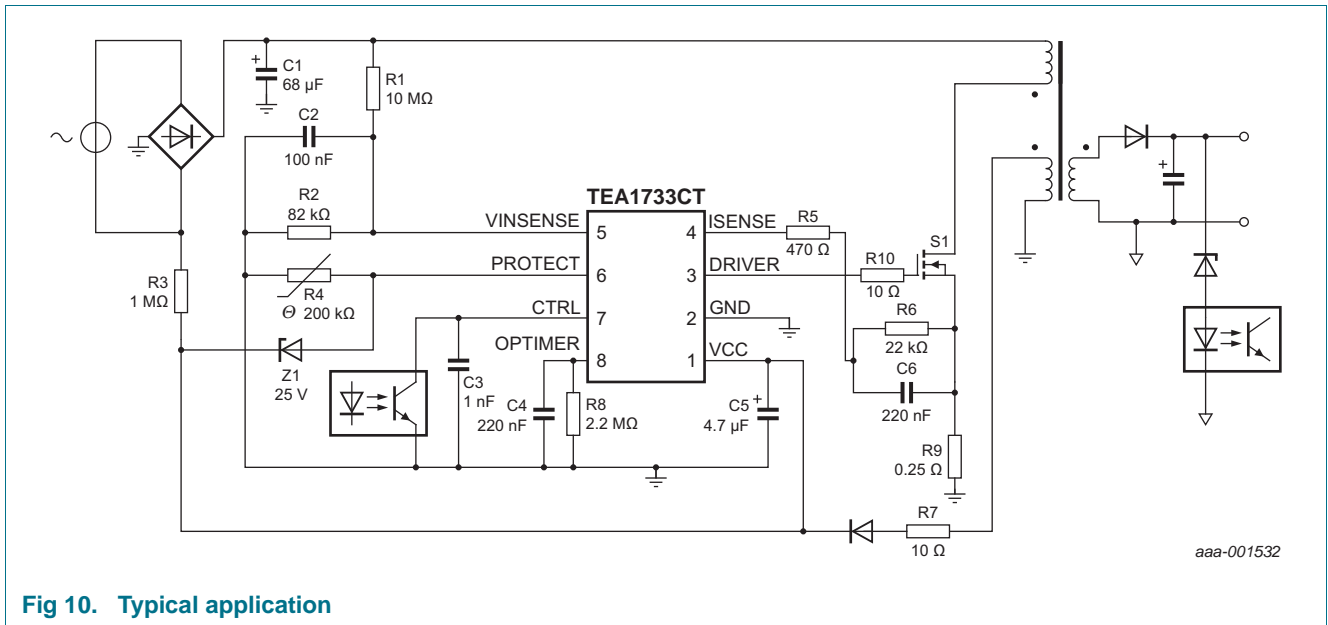

Fig 10. Typical application
A power supply with the TEA1733CT is a flyback converter operating in Continuous conduction mode (See Figure 10).
In the example shown in Figure 10, the PROTECT pin is used for OVP and OTP. Diode Z1 sets the OVP level to  $V_{CC} = 25.8\text{ V}$ . The Negative Temperature Coefficient (NTC) resistor R4 sets the OTP level. The VINSENSE pin is used for mains voltage detection and resistors R1 and R2 set the start voltage to about 80 V (AC). Capacitor C4 defines the overpower protection time at 60 ms.